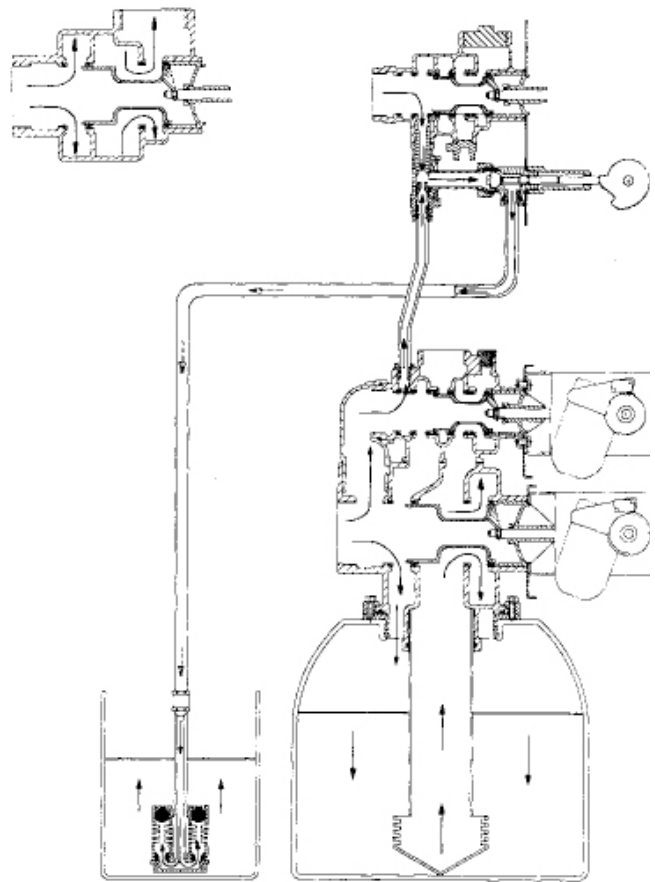

Figure 57. Brine Tank fill.
3. Hard water flows to the regenerating valve thru the injector housing and brine valve to fill the brine tank. See Figure 57.